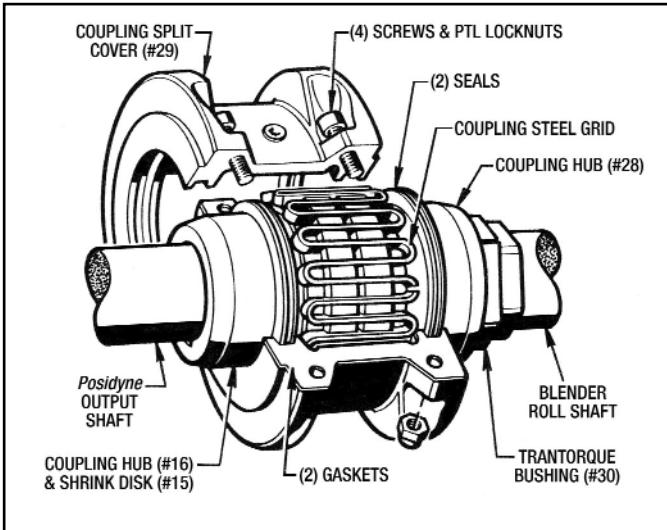

Figure 4 - Coupling Assembly
10. Place the Coupling (#29) grid over the coupling hubs and into the grid slots. Place the Split Coupling Cover (#29) over the hubs and grid. Make sure the (2) gaskets and both sealing rings are in place. (See Figure 4) **Also see the Falk Steelflex Type T10 Installation Instructions sheets .**